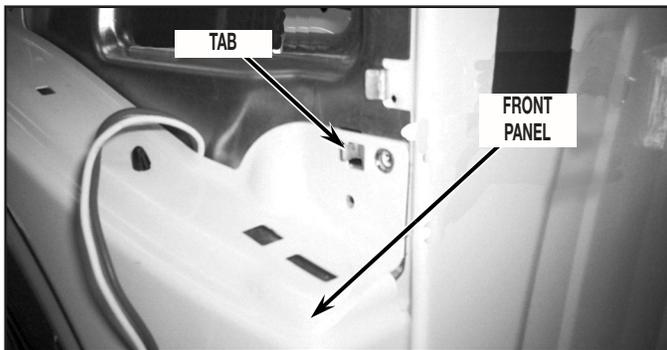

FIGURE 9
13. Remove front panel assembly from dryer by lifting panel assembly up and off tabs (one each side) as shown in *Figure 9*.